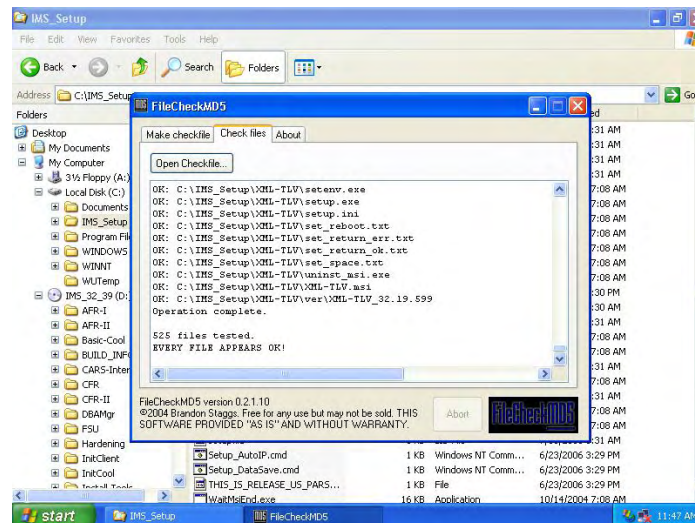

Figure 1-194. md5 File Check Executed
- h. A "FileCheckMD5" window is displayed (Figure 1-194):